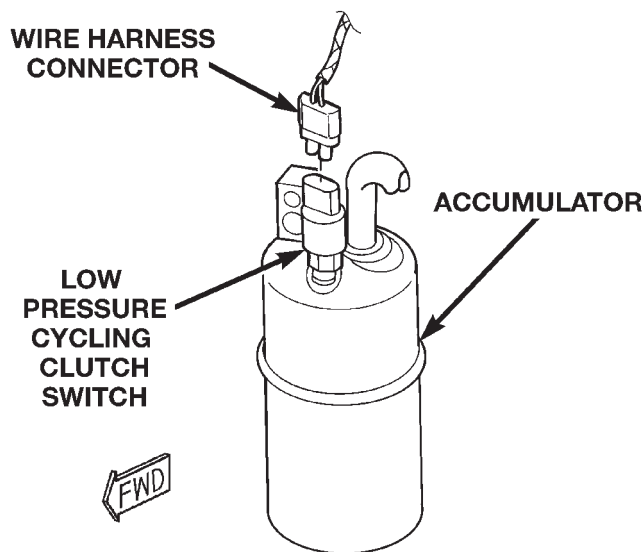

Fig. 31 Low Pressure Cycling Clutch Switch Remove/Install - Typical
(1) Disconnect and isolate the battery negative cable.
(2) Unplug the wire harness connector from the low pressure cycling clutch switch on the top of the accumulator (Fig. 31).